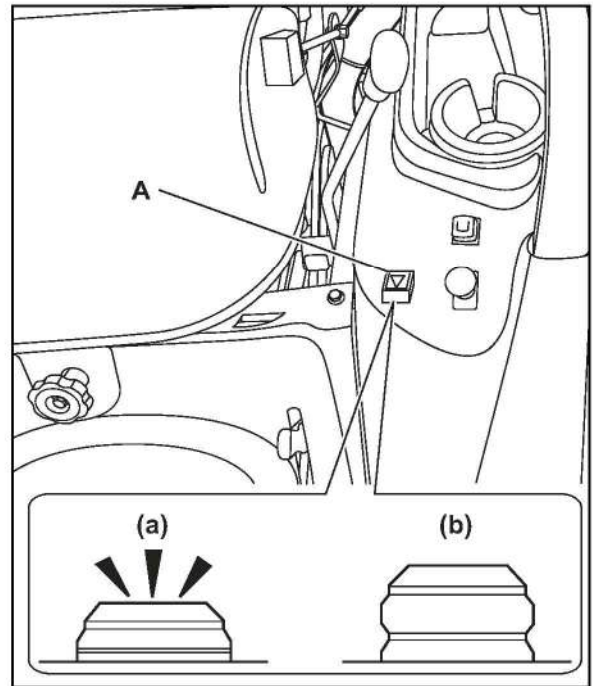

Fig 5-35
### (23) Hazard lights button switch (Fig 5-35)